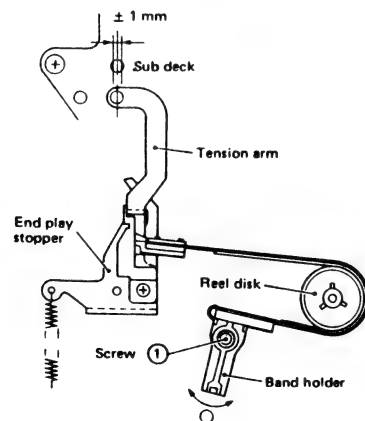

Fig. 2-27 Tension pole position
2. Confirm that the center of the tension pole lies upon the center line of the sub-deck hole as shown in Fig. 2-27.
3. If necessary, loosen screw ① and adjust the tension band holder to obtain the correct tension pole position.